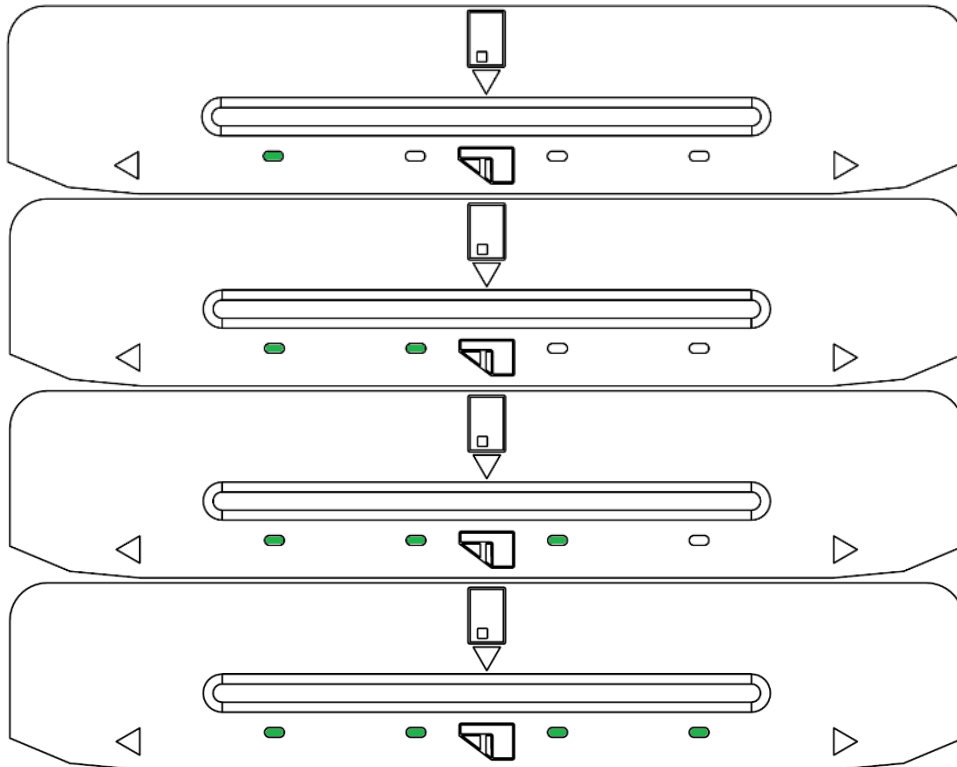

Figure 4-14 – Tap Read Is Complete
- a) The device quickly lights the second LED green to show it is processing, then lights the third LED green to show it has successfully read the tap, then lights the fourth LED green to show the read is complete (see **Figure 4-14**).